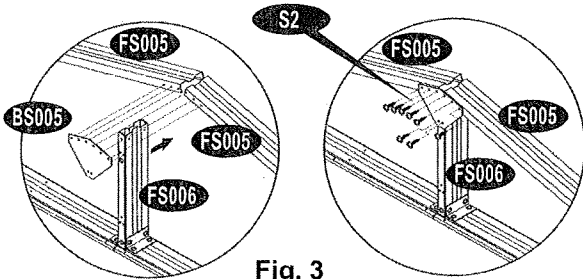

Fig. 3
9. Join the top chords (FS005) & support (FS006) with triangular bracket plate outer (BS005). Secure all with (S2) screws. See. Fig. 3.